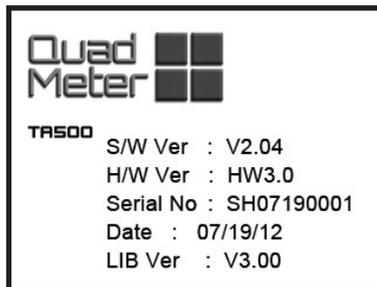

Figure 3.12.
2) View tool information on screen. (Figure 3.12)